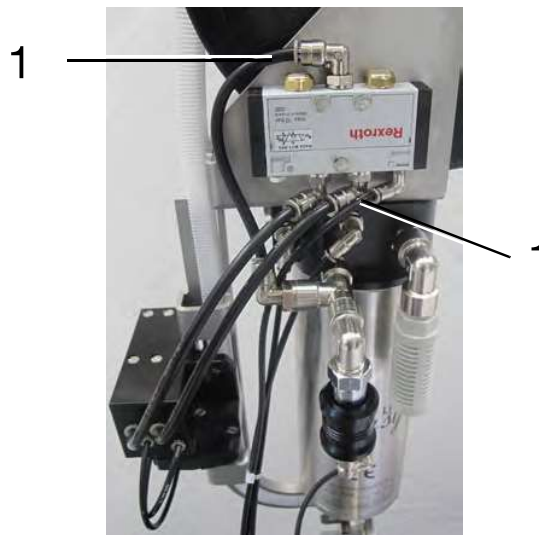

Fig. 7-29 Pneumatic hoses for the clip drive
- Reinsert both pneumatic hoses for the clip drive (Fig. 7-29).